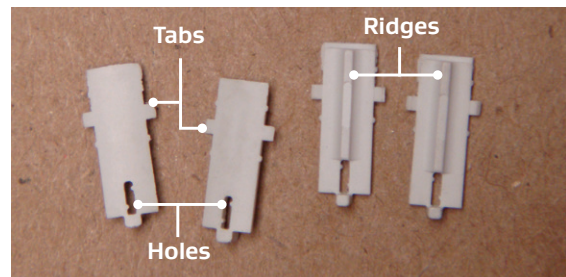

Figure 71: Retention sectors
20. Install the retention sectors over the contacts (Figure 71). Both tabs should fit into the slots near the mating face, and the hole will line up with the tab near the rear of the contacts (Figure 72). The side with the ridge will face toward the insert (Figure 73).